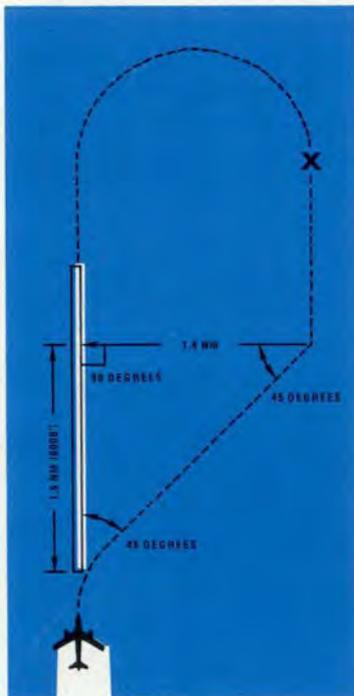

FIGURE 2
a. **The 180° MANEUVER:** In this situation, you are cleared for an approach to one runway and cleared to land in the opposite direction. In the example shown in Figures 2, 3, and 4, we have been cleared for an instrument approach to runway 36, circle to land on runway 18. The task is to maneuver our aircraft to the position marked with an "X". At that point we can initiate a base turn to runway 18, using normal bank angles, to roll out aligned with the runway. Of course, the position of this "X" will vary for different aircraft or even the same aircraft at different weights and speeds. One way to determine displacement is by consulting the "General Turning Performance" chart in AFM 51-37. For the sake of our example let's assume we need 1.5 NM displacement from the runway to execute our turn.
One technique, as shown in Figure 2, would be to turn at a 45° angle and fly down the length of the runway a distance equal to your desired offset; then turn to parallel the runway. Geometrically, you have described a no wind triangle with